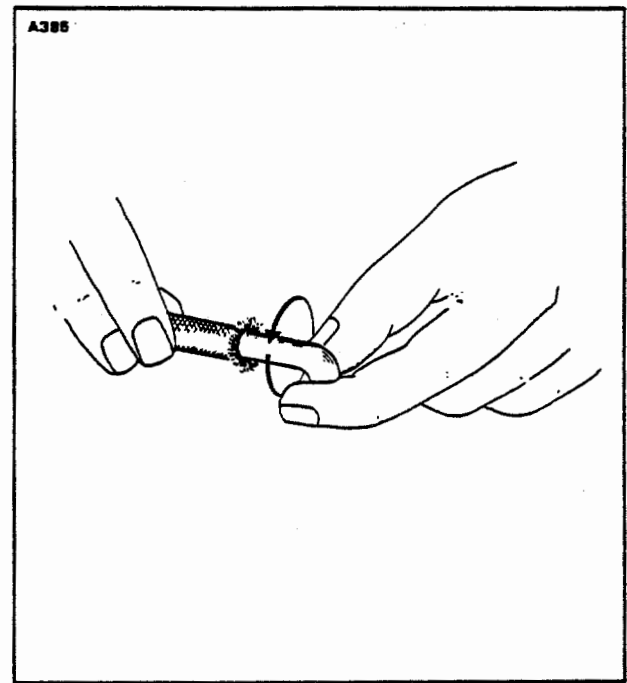

Figure 8-26. Flaring out the Shielding
- h. After installation of nut and ferrule, bend and rotate the silicone insulation as illustrated in Figure 8-26 to flare out the shielding so a drive ferrule can be inserted. Take care not to cut the silicone insulation with the sharp braiding while the wire is being rotated. (Refer to Figure 8-26.)